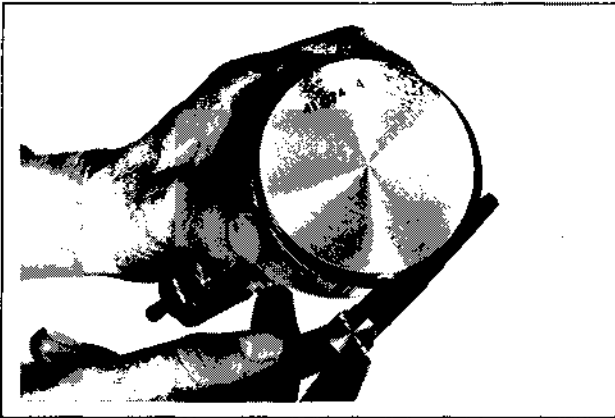

Figure 10-14. Measuring Piston Ring Side Clearance.
4. After installing the new compression (top and middle) rings on piston, check piston-to-ring side clearance. Maximum recommended side clearance is $.006''$. If side clearance is greater than $.006''$, a new piston must be used. Refer to Figure 10-14.